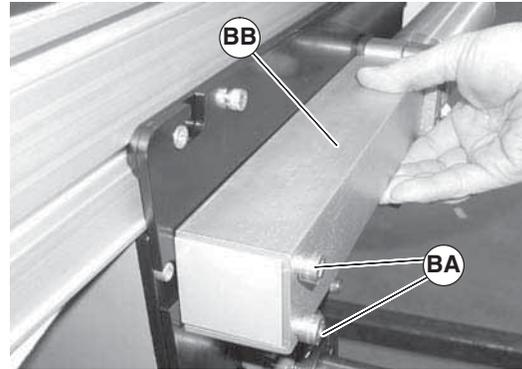

Figure 25
5. Remove screws (Figure 25, item BA) and tensioning guards (BB) from both sides of center drive.